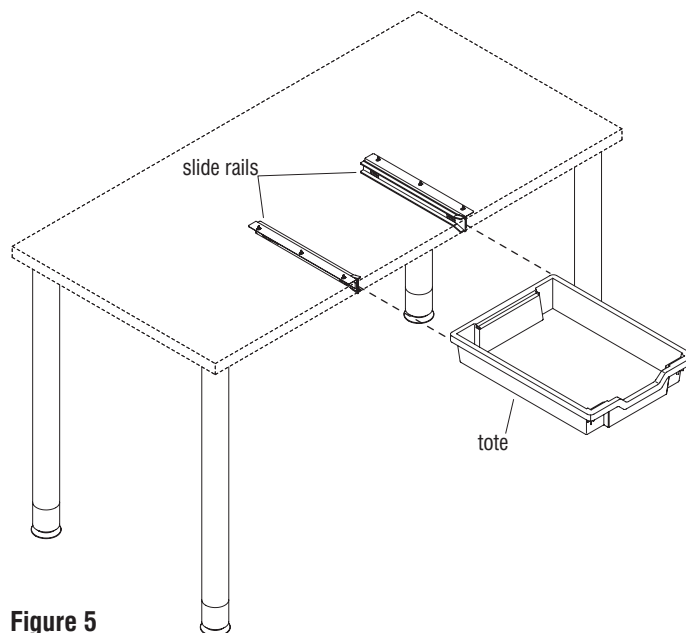

Figure 5
13. Insert the top side rims of the tote into the installed pair of slide rails and slide into place (Figure 5).